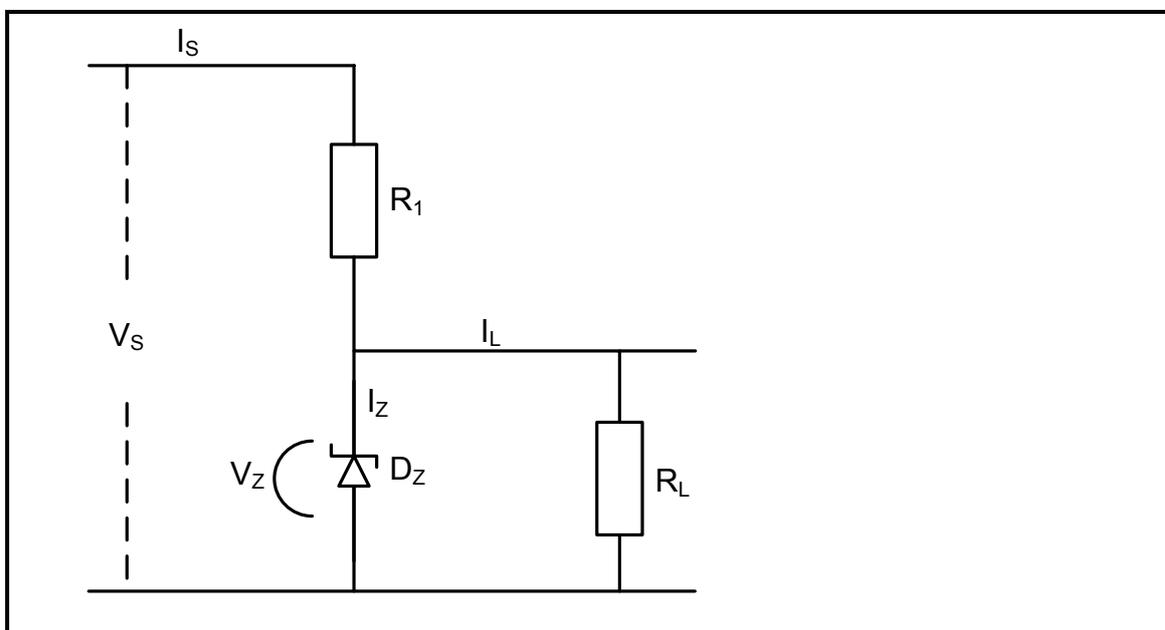

FIGURE 9.2: REGULATOR CIRCUIT
9.3 Refer to the regulator diagram in FIGURE 9.2 below and answer the questions that follow.